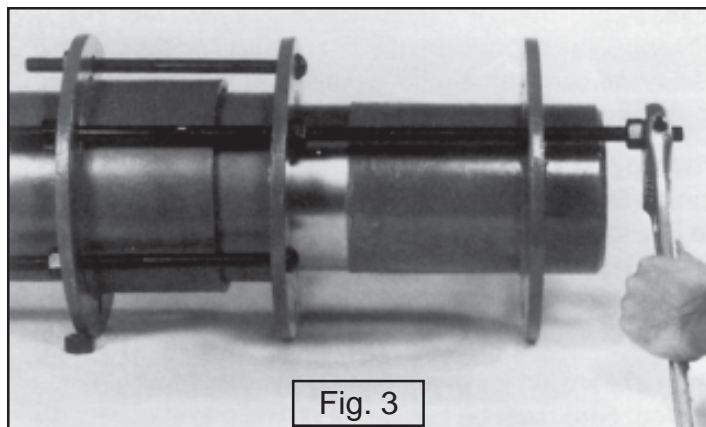

Fig. 3
- 8) Skip this step if limit rods not furnished. (see fig 3) Position the limit adjusting nuts beyond the limit ring as follows: